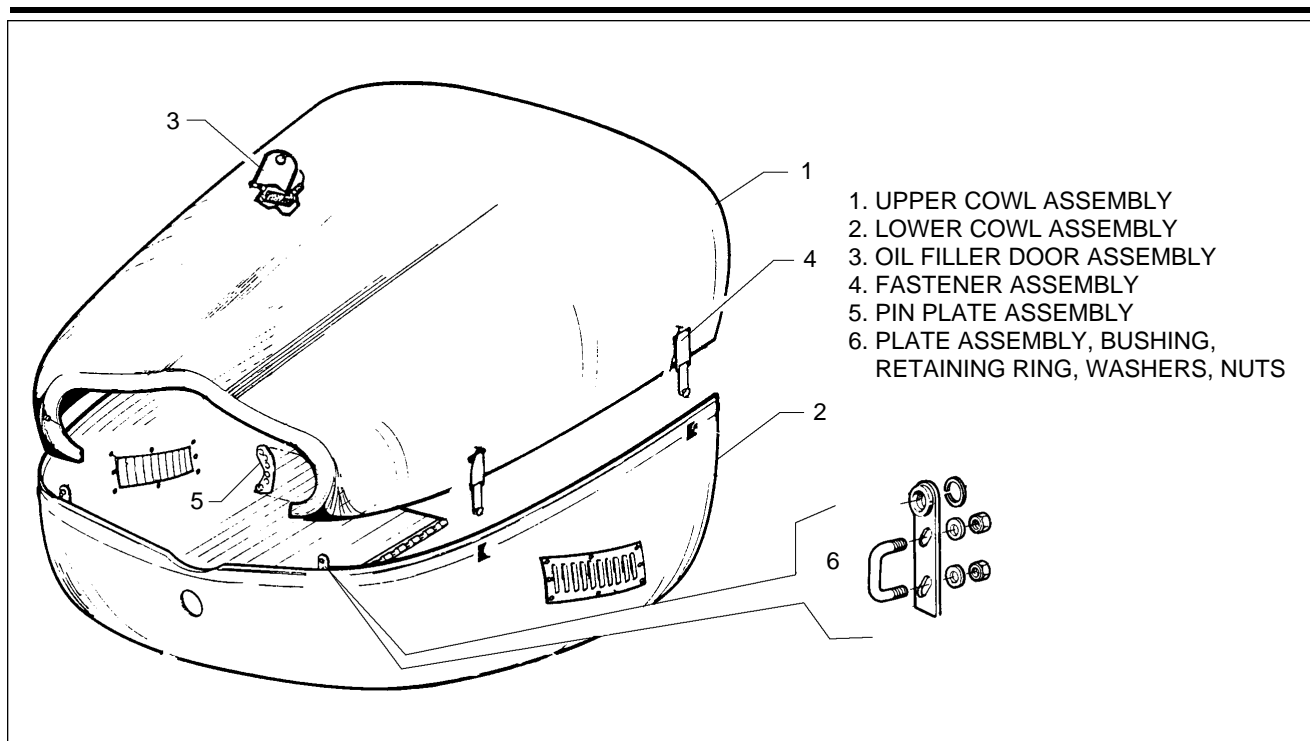

Figure 71-4. Engine Cowling Installation
- a. With cowlings removed, locate bushings on lower cowling. (See Figure 71-4.)